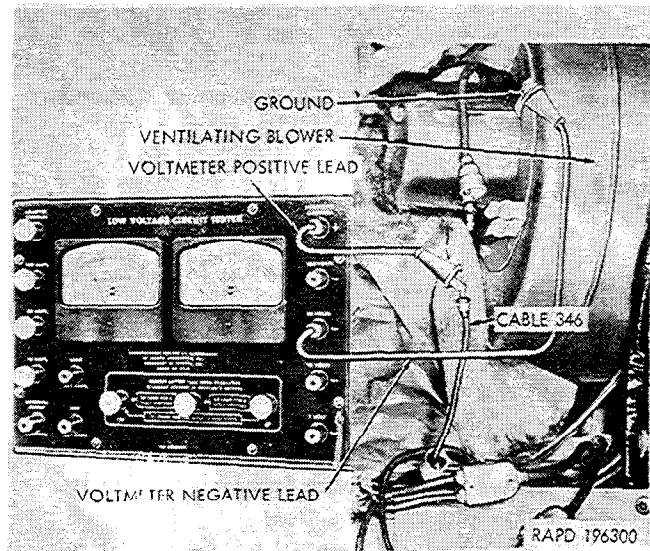

Figure 3-7. Checking for current to ventilating blower motor and switch.
(1) Check for current to the ventilating blower motor (fig. 3-7).